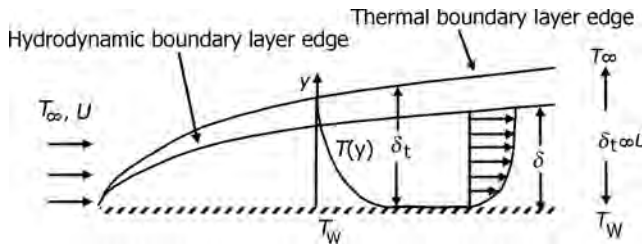

FIGURE 9.2 Hydrodynamic and thermal boundary layers.
- Thermal boundary layer thickness is different from hydrodynamic boundary layer (Figure 9.2).